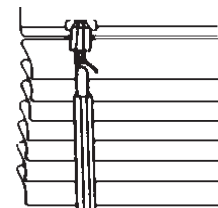

Fig. 19
- Slide the plastic sleeve you removed over the metal shaft protruding from the headrail (fig. 19). Holding the sleeve up above the tilter shaft hole, insert the wand hook through the shaft hole until it "rests" in the bend of the hook.